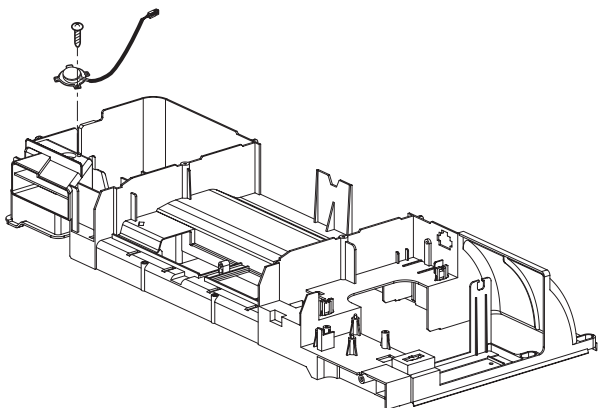

Figure 22
- (1) Remove the sensor by removing one screw securing it to the air duct. (See Figure 22)
- (2) Mount the new humidity sensor to the air duct.